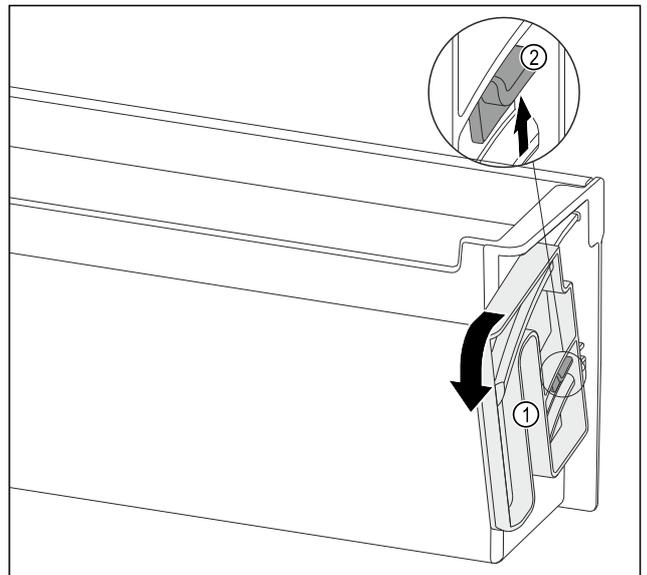

Fig. 115
- ▶ Turn the turning unit Fig. 115 (1) in the specified direction to the end stop.
- ▶ Press the tab Fig. 115 (2) up and remove the turning unit Fig. 115 (1).